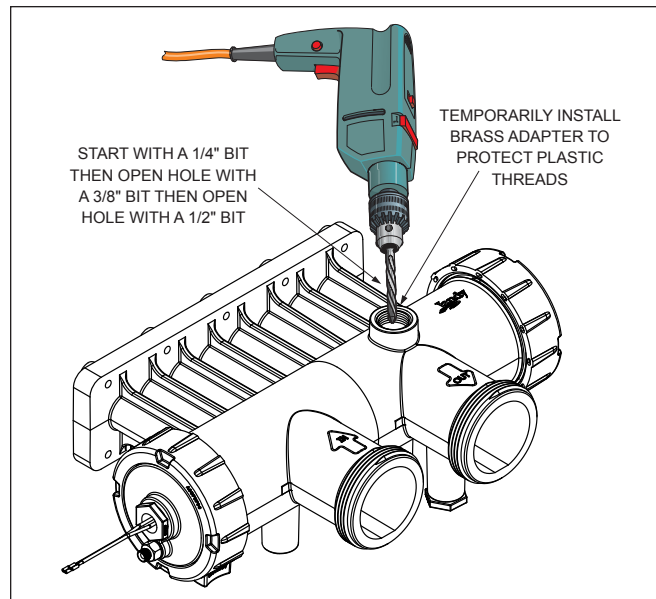

Figure 13. Drill Hole for Pressure Relief Valve
2. Using the countersink in the center of the blind hole as a guide, drill a 6.4 mm (1/4 inch) hole through the plastic (see Figure 13).